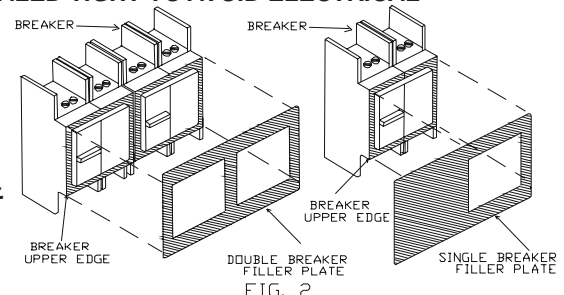

FIG. 2
6. **480V models with single point transformer** - This part can be externally mounted or internally mounted inside the air handler cabinet (see fig. 2).
FILLER PLATE INSTALLATION INSTRUCTIONS (see fig. 2):